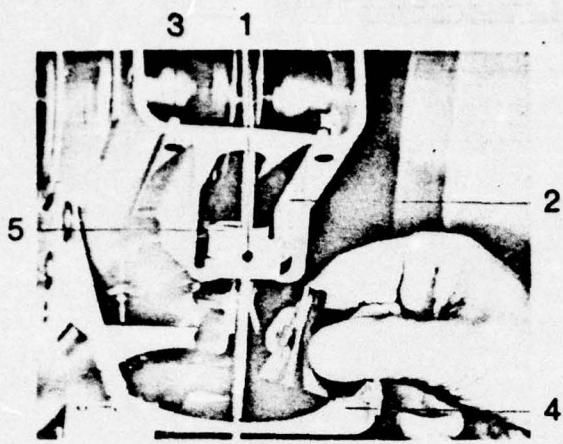
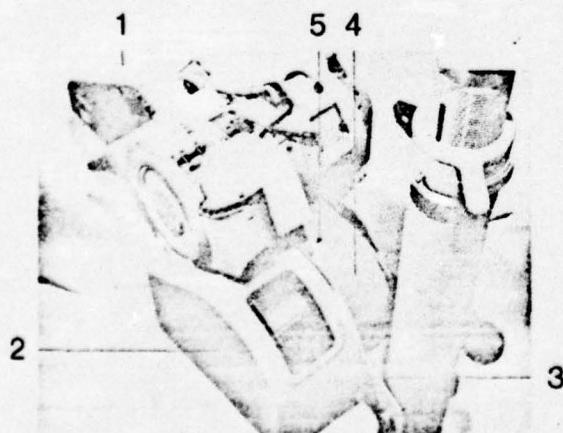

Figure 3.19
Figure 3.23
1. Cover plate (1, Figure 3.23) loosened by taking out one cheesehead screw M4 x 12 DIN 912 along with plate 4.3 DIN 125 at the spot (1, Figure 3.19).
2. Holder (2, Figure 3.19) with separated intake funnel passed through the borehole of the clutch lever (4, Figure 3.19)
after taking out four countersunk screws M4 x 12 DIN 7991 (3, Figure 3.19).
3. Place open-end wrench s = 24 mm at a slant from above on the nut (5, Figure 3.19) and take out intake funnel with open-end wrench s = 32 mm.
3. Remove cover plate (4, Figure 3.23) after unscrewing one cheesehead screw M4 x 12 DIN 912 with plate 4.3 DIN 125 (5, Figure 3.23) and a similar screw with plate on the underside of the jib, removal taking place slanting upward.